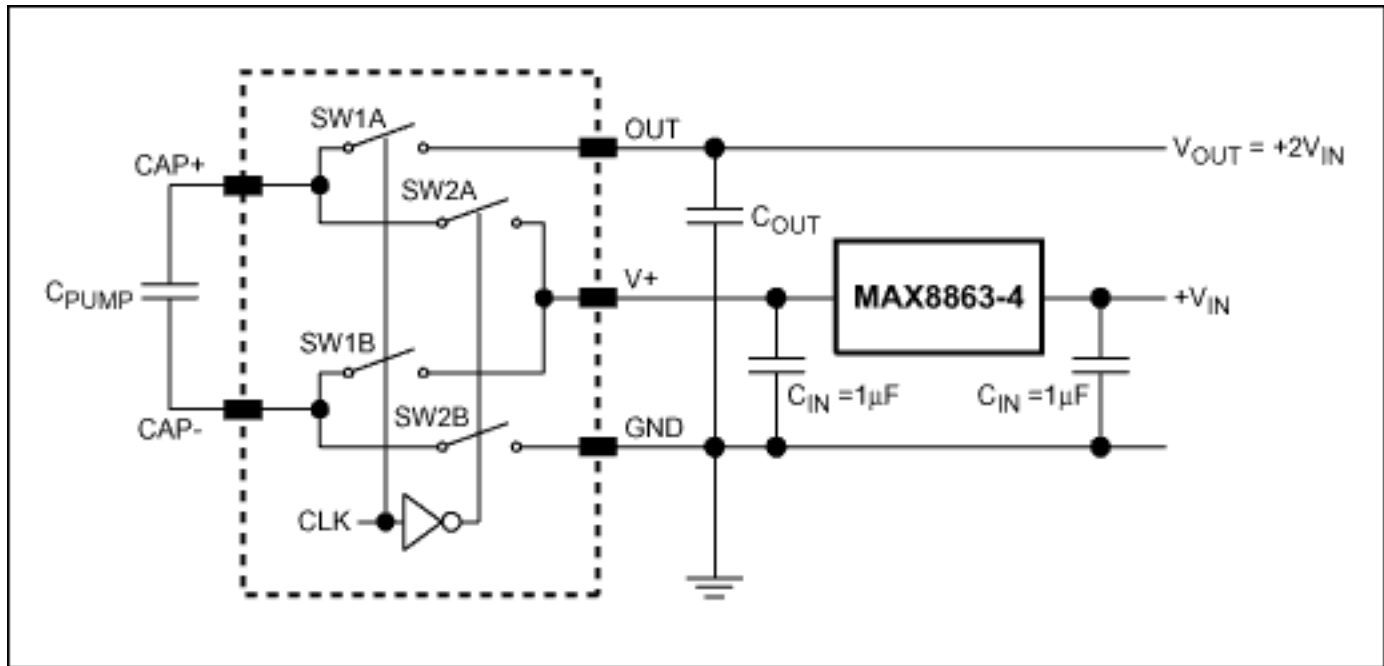

Figure 8. Charge pump doubler with LDO for input-ripple protection.
3. Adding a low-dropout linear regulator to the charge pump's input supply (**Figure 8**) yields an effective general-purpose circuit for preventing the effects of ripple on the rest of the system. The input LDO also operates with smaller capacitors than those associated with a passive LC filter: the 300mA MAX8860 LDO (available in an 8-pin $\mu\text{MAX}^{\circledR}$ package) requires 2.2 μF capacitors at input and output; the MAX8863–MAX8864 family of 120mA linear regulators (available in SOT23 packages) requires only 1 μF ceramic capacitors. The LDO must handle at least twice the charge pump's output load current, however. When compared with an equivalent